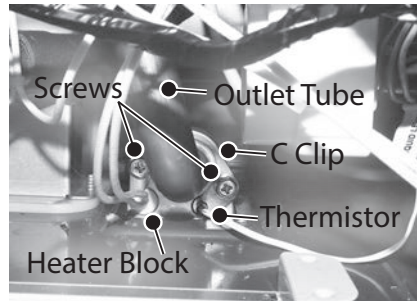

Figure 25 - Removing C clip and screws
- 17 Locate the C clip securing B2 heater block to the hot water outlet piping. Remove the two screws securing C clip. Place screws and C clip aside in a safe place for reinstallation. See Figure 25.